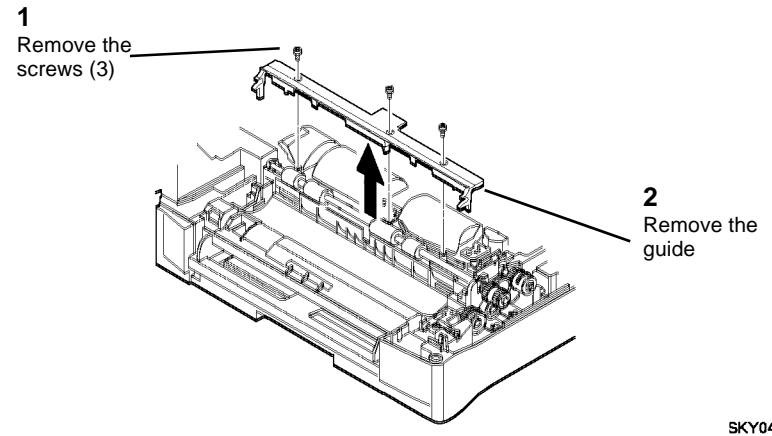

Figure 2 Removing the Upper Front Paper Guide
3. (Figure 2): Remove the Upper Front Paper Guide.